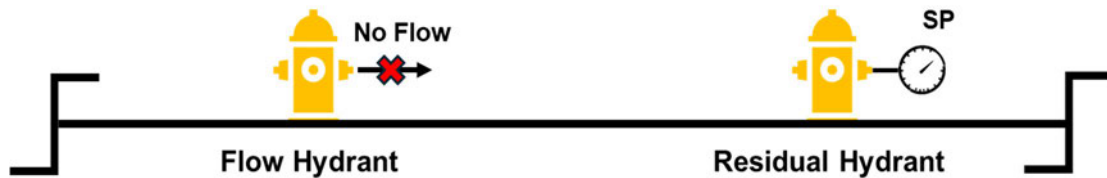

Figure 6-9 Static Pressure Reading Schematic
Step 1: Attach a static pressure gauge on the residual hydrant and take a static pressure reading as described in *Section 6.5.1 Step 1 (Figure 6-9)*.